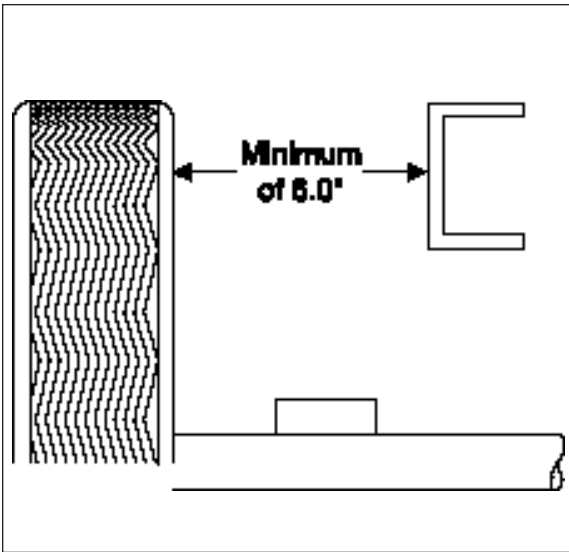

Figure 2
**IMPORTANT:** This kit requires a minimum clearance of 6.0" between the tire and frame (Figure 2).